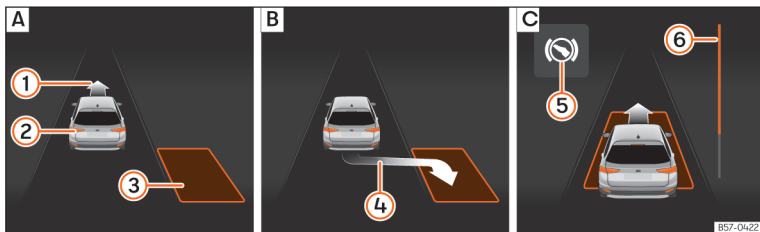
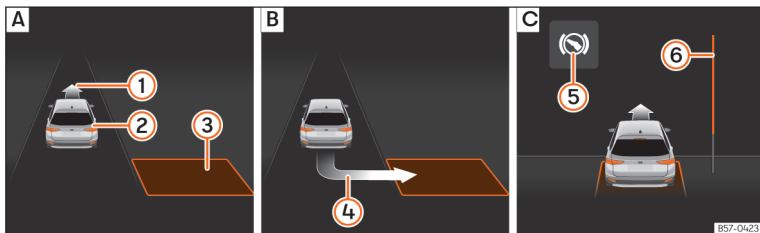

Fig. 198 On the instrument panel display: parallel parking. **[A]** Finding a parking space. **[B]** Parking position. **[C]** Manoeuvring.
Fig. 199 On the instrument panel display: angle parking. **[A]** Finding a parking space. **[B]** Parking position. **[C]** Manoeuvring.
- Look at the display on the instrument panel to see if the space has been detected as “appropriate” and if the correct position for parking has been reached »» Fig. 198 [B] or »» Fig. 199 [B]. The space is considered
- Reverse until the continuous ParkPilot signal sounds; **OR:** reverse until the indication to move forward appears on the instrument panel display »» Fig. 198 [C] or »» Fig. 199 [C]; **OR:** reverse until the **Park Assist finished** message appears on the instrument panel display. The progress bar [6] indicates the distance to cover »» page 278.
- Move forward until the continuous ParkPilot signal sounds; **OR:** move forward until the reverse indication appears on the instrument panel display. The Park Assist system steers the vehicle forward and back until it centres it in the space »» Fig. 198 [C] or »» Fig. 199 [C].
»» Fig. 198 [6] and »» Fig. 199 [6] on the screen of the instrument panel displays the relative distance to be covered. The greater the distance, the fuller the progress bar. When driving forward, the content of the progress bar decreases upwards, and when reversing, it decreases downwards.